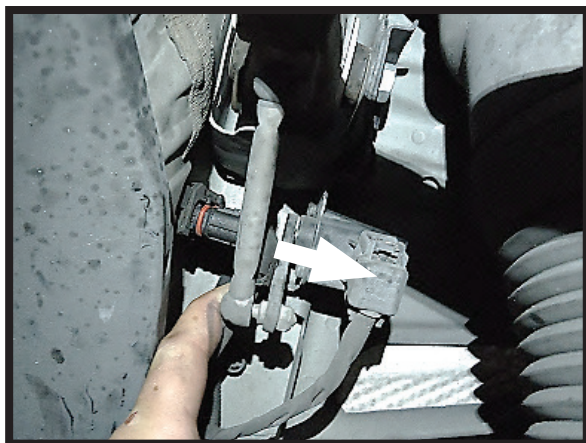

FIGURE 6
5. DISCONNECT AND SEPARATE THE TWO (2) ELECTRICAL CONNECTORS. (FIGURES 6, 7)